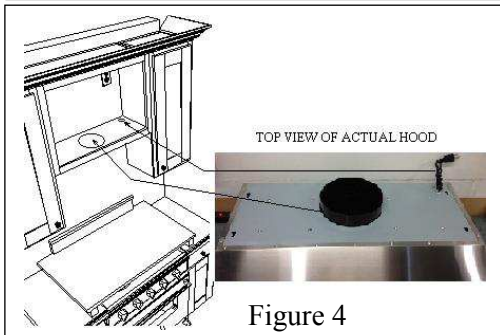

Figure 4
- Create access opening for electrical wires and hood exhaust under the cabinet. Figure 4